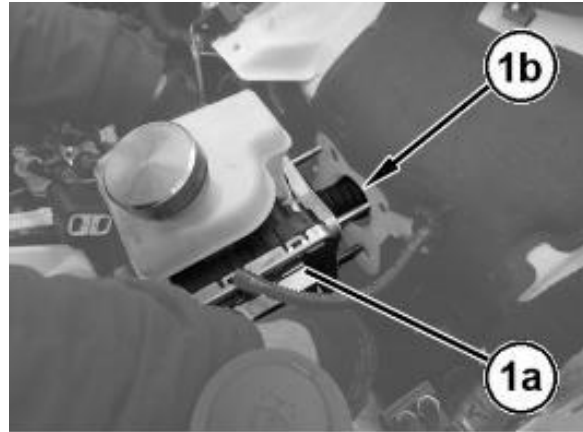

Figure 23 – ABS Module
37. Retract the ABS module (1a) and remove it releasing the push rod (1b) from the firewall (Figure 23).